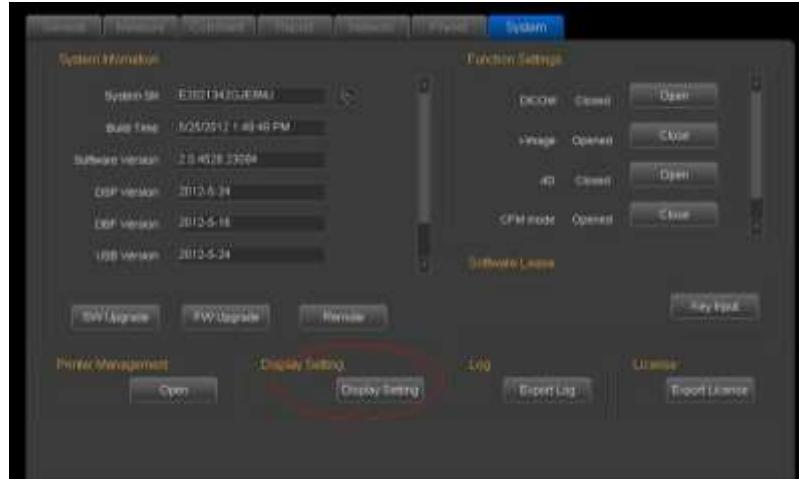

Fig.3-4
- 1) Press the “setup” key; enter “system” interface, then select “Display Setting”. See picture in Fig.3-4.